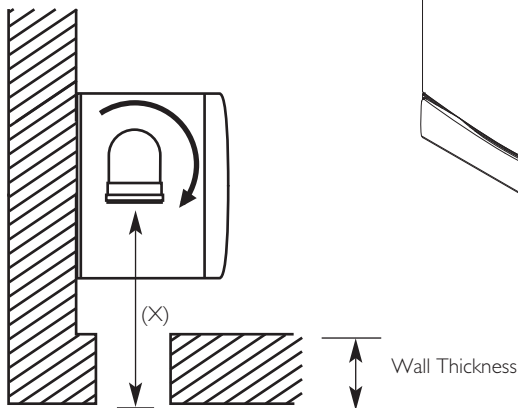

Fig. 23
3. Measure the distance from the outside wall face to the elbow. This dimension will be known as 'X' (Fig. 23).